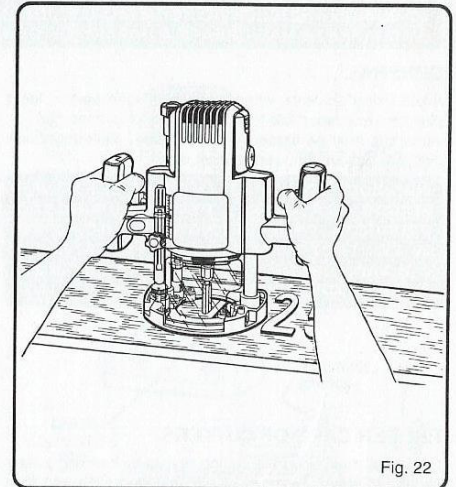

Fig. 22
See Figure 22.
2. Routing out the background, leaving the letters or pattern raised above the surface as shown in figure 22.